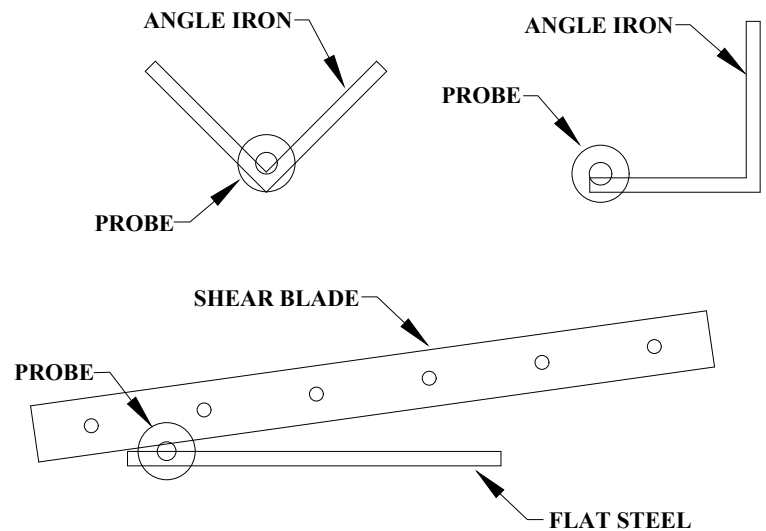

FIGURE 31
1. First, mount the main tube, Item (7), to the machine, using the bolts provided.
3. Slide the balance of the assembly on the main tube (7) so that the slide block (6) is as close to the machine's frame as possible and lined up with the plate shear on your model. Lock the slide in place.
4. Once the slide block (6) is tightened to the main tube, loosen the set screw (4) and slide the probe in as close the bottom shear blade as possible.
5. On some models, the probe will reach the lower shear blade. On these models, lock the set screw (4) with the probe against the shear blade and install the scale (8) on the main tube with 0 inches aligned with the slide block (6).
6. On models where the probe does not reach the lower shear blade, set the probe at a set distance away from the lower blade such as 1 or 2 inches. If the probe is 1 inch from the lower blade install the scale with the 1 inch mark aligned with the slide block (6).
7. When you move the probe to another station, you will have to re-calibrate the stop by moving the slide block (6) in to the preset point on your scale and loosening the set screw (4) and adjusting the probe accordingly.
8. The other important thing is to set the probe where it contacts the material you are going to cut. FIGURE 31 on the next page shows the recommended placement of the probe in relation to the material being cut. . If the probe is not properly set, the material can move the probe and cause changes in the length of your parts.